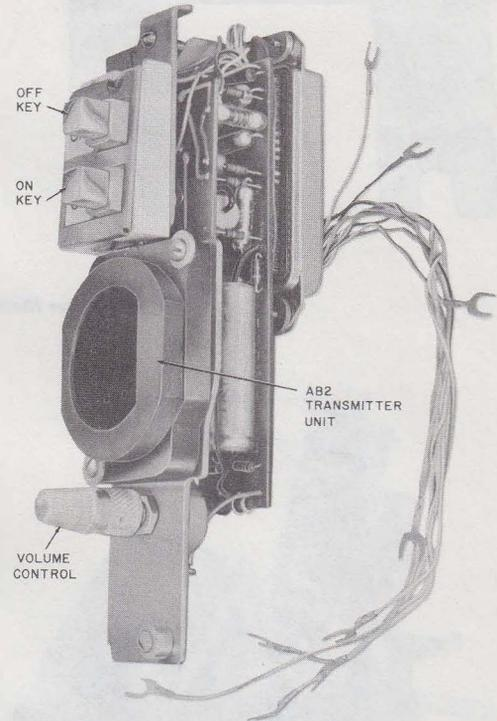
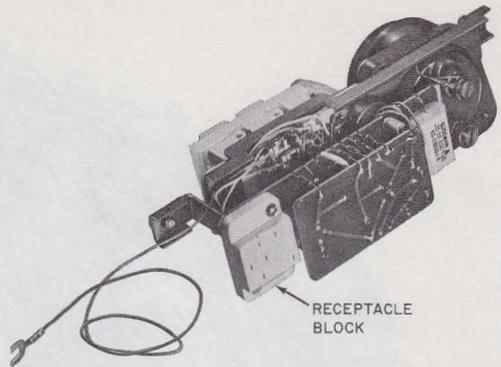

Fig. 20—667-Type Transmitter
Fig. 21—679A Transmitter
**2.31** Telephone sets that are intended for use with speakerphone can be modified by installing a 667-type transmitter (Fig. 20) for early production sets or a 679A transmitter (Fig. 21) for current production sets, and replacing the 8R dial with an 8C dial on rotary dial sets.